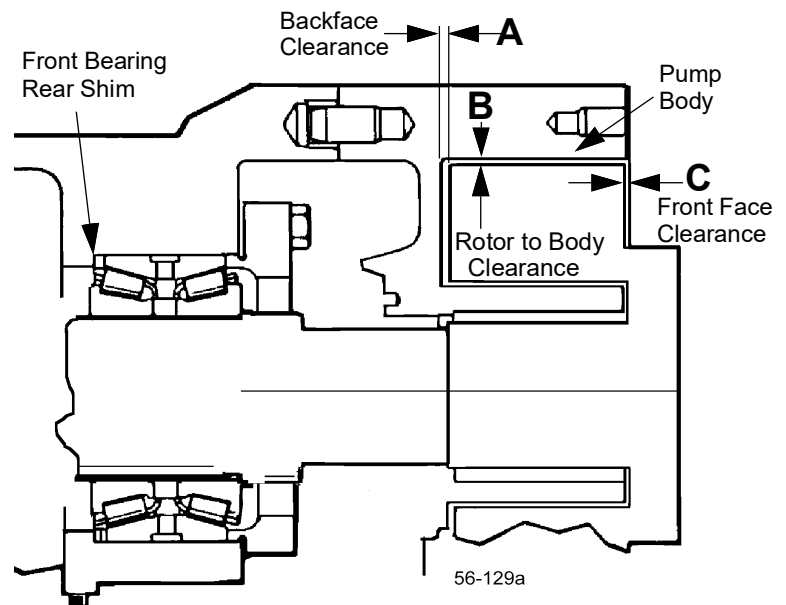

Figure 64 - Clearance Measurements
- With feeler gauges, measure the rotor backface clearance (Figure 64, item A), through the port or from the front.
- Measure the rotor front face clearance (Figure 64, item C).
- Measure the rotor to body clearance (Figure 64, item B).